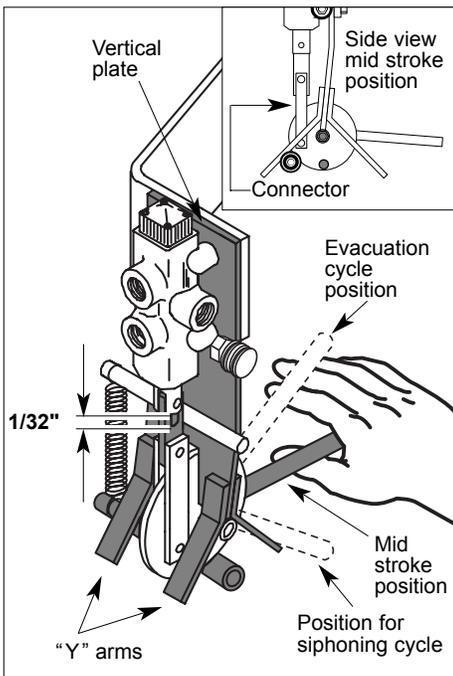

fig. 6
- C** Gradually push the trigger of the reversing mechanism downward until it has slightly exceeded its mid stroke — *fig. 6*. From thereon, springs must complete the stroke. If not, recheck the spool of the reversing valve — see *instruction 8 B*. Clean and lubricate the reversing mechanism — see *instruction 2*.
- D** Ensure the vertical plate of the reversing mechanism is slightly bent so the bolt of the reversing valve spool and the lower bolt of them connector are vertically aligned when the trigger is manually kept on mid stroke position. — *fig. 6 side view*.
- E** Ensure the "Y" arms of the reverse are properly bent to allow a play of 1/32" between the groove of the connector and the connector bolts — *fig. 6*.
9. Ensure the trigger is at the siphoning cycle position — *fig. 6*. Start the Magnum to bring the piston up and let it automatically reverse and go down on a distance of 24". Then, manually push the trigger down to bring the piston up and let it automatically reverse and go down again on a distance of 36". Then, manually push the trigger down to bring the piston up. This time, let the Magnum do a few full strokes by itself.